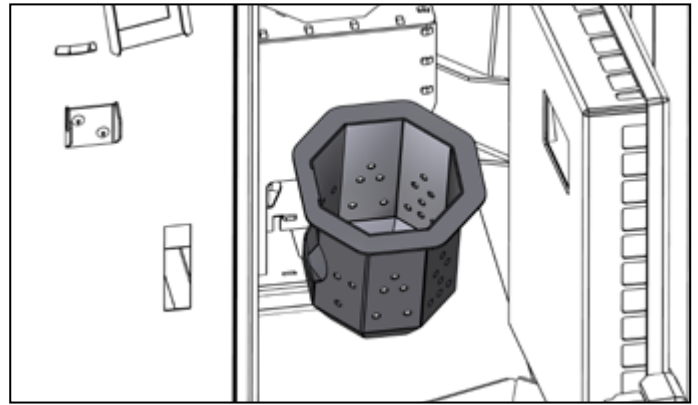

Figure 12-15: Removal of flame pot
- Remove the flame pot from the top of the burner. Refer to Figure 12-15.